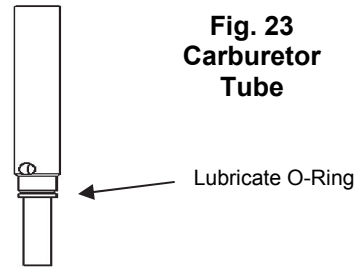

Fig. 23
- 3. Install the o-ring on each carburetor tube (Fig. 23). Apply a lubricant (SaniGel p/n 1150 recommended) sparingly over the o-rings. Place the carburetor tubes in the bottom of the mix pans for sanitizing. Be certain that lubricant does not block the mix inlet hole on the carburetor tube.